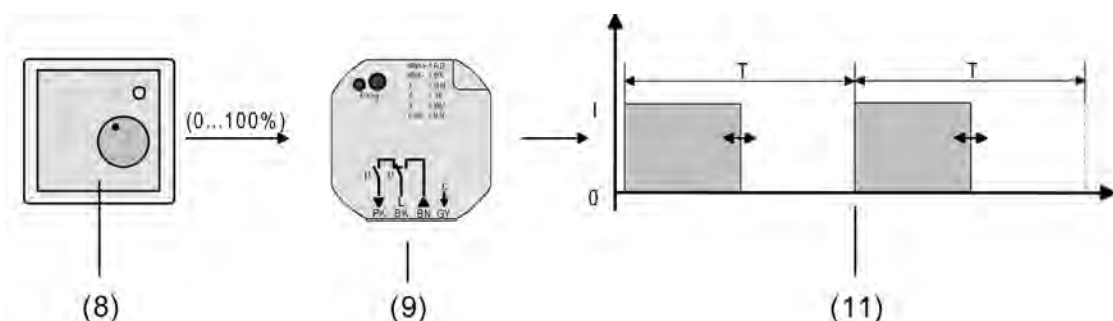

Figure 41: Command value principle for constant command value
- (8) Room temperature controller (command value "1-bit")
- (9) Window interface
- (10) Switching output signal for valve drives
In normal operation, the value telegram received via the 1-byte "Command value" object is converted by the device into an equivalent pulse width modulated switching signal at the valve outputs (figure 41). Taking the cycle time (T) settable in the device into account, the average output signal resulting from this modulation is a measure of the centred valve position of the control valve and thus a reference for the set room temperature (see "Pulse width modulation for constant command values and constant valve setpoint positions").